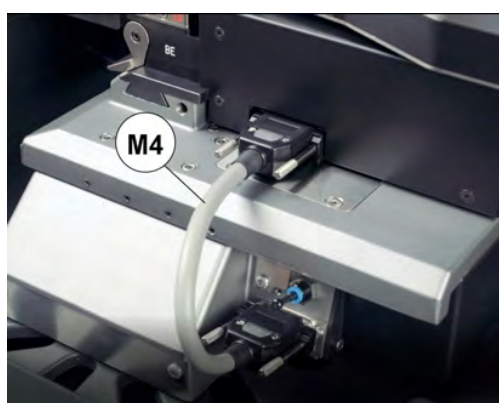

Fig. 139
- 3) Disconnect the serial cable (M4) that connects V4 clamp to the machine (Fig. 139).